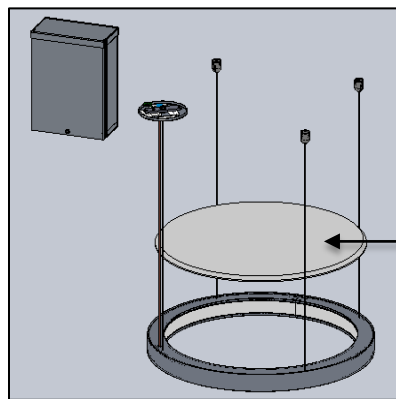

FIG. 26 - RV1 (INNER ILLUMINATION) (WITH ACOUSTIC PANEL SHOWN)
16. If there is option for Acoustic Panel, place the Acoustic part above the fixture body such that it is eventually balanced and assembly concentrically to the axis of fixture body as shown in FIG. 26 and 27 below for both RV1 and RV2 Series.